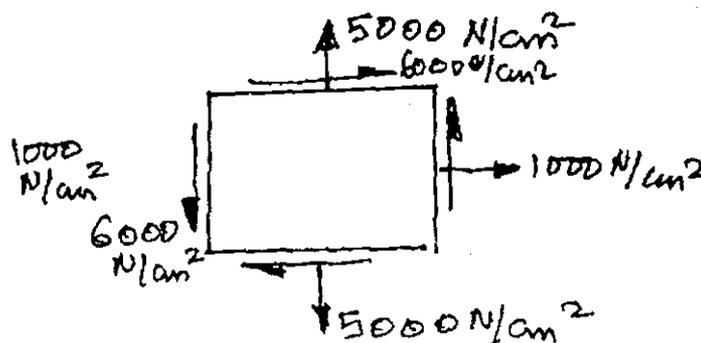

Fig. 2
- (b) (i) Derive the expression for the principal stresses for a biaxial stress field comprising of σ_{xx} , σ_{yy} and τ_{xy} . (8)
- (ii) For the state of stress shown in Fig. 2 compute the direction of principal stresses, principal stresses and maximum shear stress. (8)